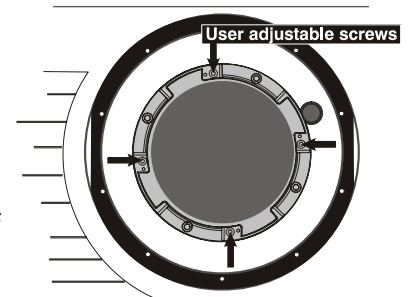

Figure 4.11. Adjustable Screws on Retaining Ring
- **Secure lock-down screws (optional):** For added stability, secure the adjustment screws provided on the lens-retaining ring (see Figure 4.11). If you have installed a large zoom lens, one or more of the screws may be inaccessible—simply tighten those that are accessible (Figure 4.12).